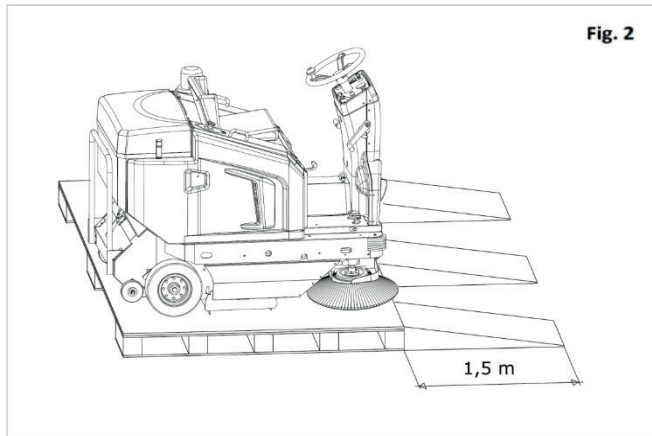
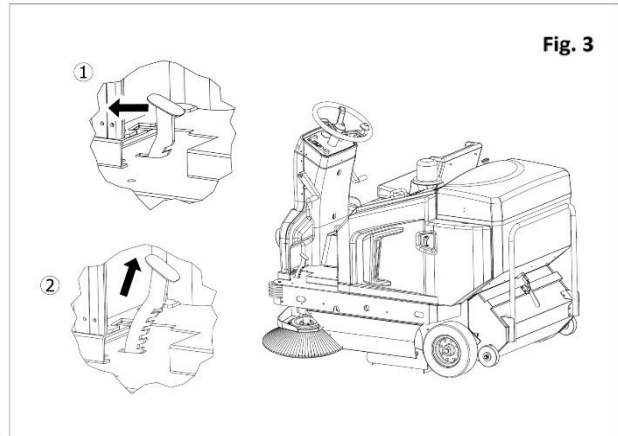

Fig. 2
Fig. 3
- 2) Retrieve the relative ramps for the pallet and put them in position, screwing them on with the supplied screws, as shown in **Fig. 2**; remove the pieces of wood that surround the wheels and disengage the parking brake **Fig. 3**, pressing it to release the brake lever. It is now possible to push the machine onto the slide (this must be carried out when no one is stationed in front of the machine and on a spacious flat surface)